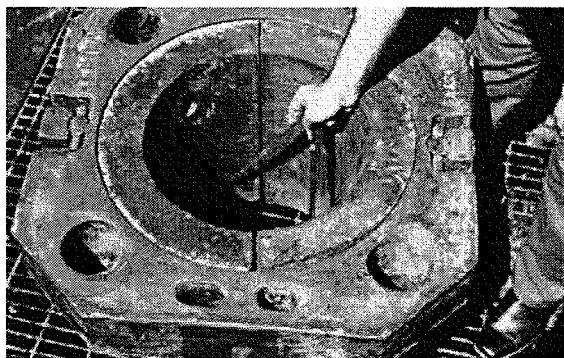

Figure 87: Measuring Master Bushing Throat
Figure 87: To measure a bushing, first make sure the bowls are pushed back against the hull, measure the throat or the bottom of the taper with calipers as shown here. The manufactured dimension is 10.1/8 inches (257 mm). The recommended maximum wear dimension is 10.7/8 inches (276). The measurement of this bushing is 11.1/16 inches (281 mm) or 3/16 inch (5 mm) over the allowable maximum.